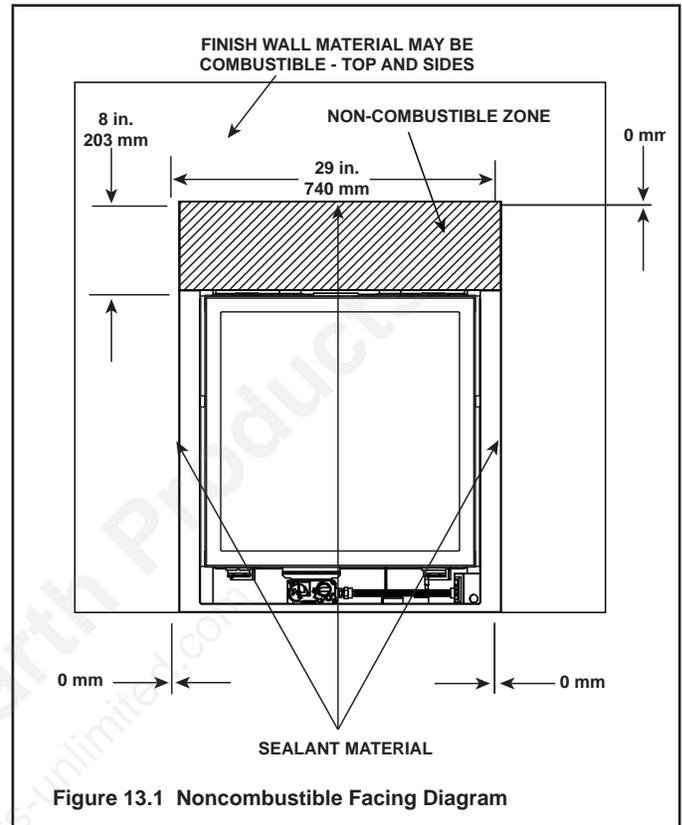

Figure 13.1 Noncombustible Facing Diagram
1. Bend two nailing tabs away from fireplace 180 degrees on both left and right nailing tabs. Do not adjust the column standoffs. See Figure 13.1.